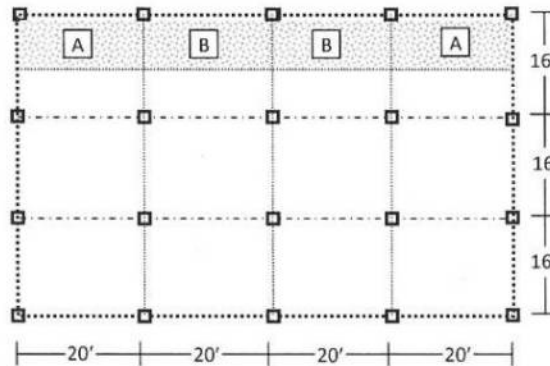

Fig. 1
- A building is to be designed as a flat plate structure. A plan of the building is shown in *Fig 1*. The columns are 20"X 20" in size. Use WSD to calculate the column strip and middle strip moments of Panel A and Panel B [Given, FF = 25 psf, RW = 30 psf, LL = 50 psf, $f'_c = 4$ ksi, and $f_y = 60$ ksi].